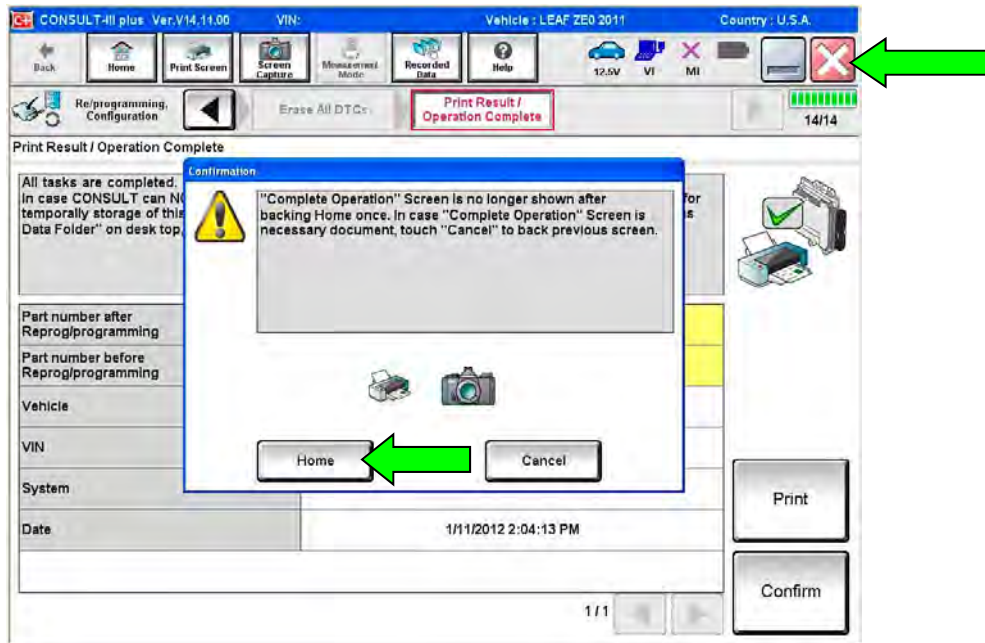

Figure 38
53. Close C-III plus by selecting "X" (see Figure 38).